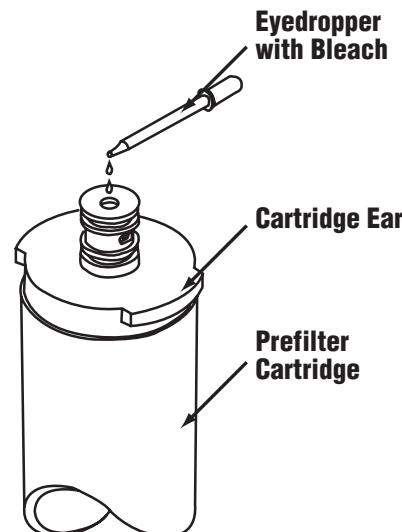

Fig. 10
- 3) Before installing the new cartridge, use and eyedropper to inject one teaspoonful (approximately 5 ml) of household bleach into the center opening of the filter cartridge. The prefilter is located just before the RO membrane cartridge. (See Fig. 10)
- 4) Open the feed water tapping valve and allow the appliance to operate for at least six (6) hours. Drain the storage tank and discard the water. The appliance should be ready to use as soon as the storage tank refills. If any objectionable taste is noticed, then drain the storage tank again and allow it to refill.